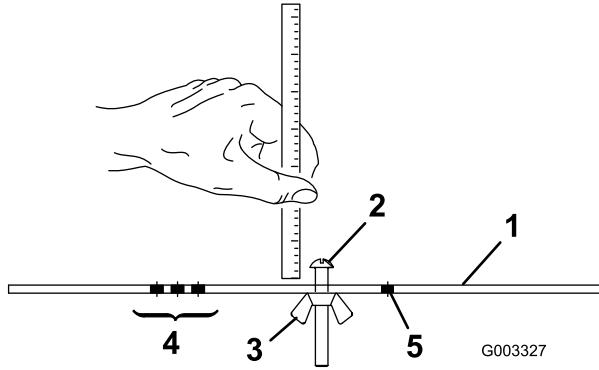

Figure 16
2. Loosen nut on gauge bar (Figure 16) and set adjusting screw to desired height-of-cut.